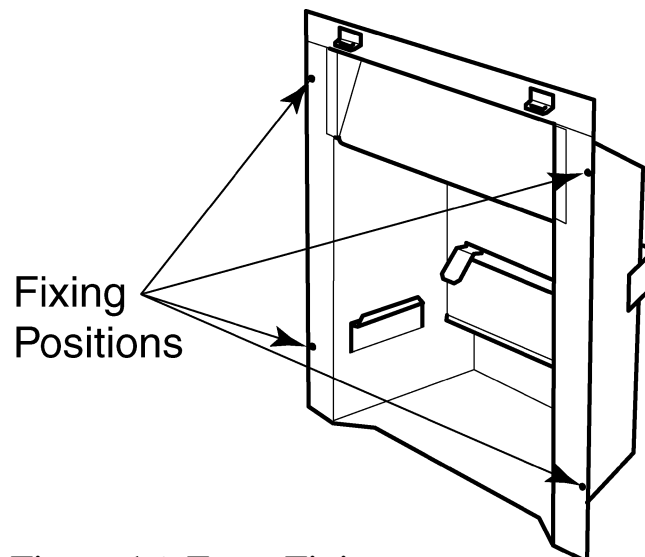

Figure 16. Front Fixing
3. Mark the fireplace front surround through the four fixing holes in the side flanges of the hotbox (See figure 16).